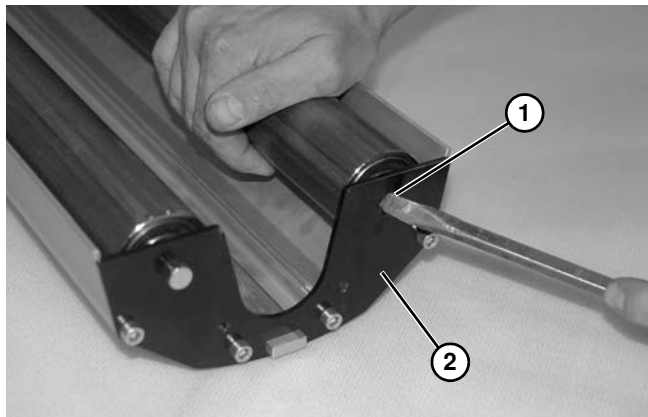
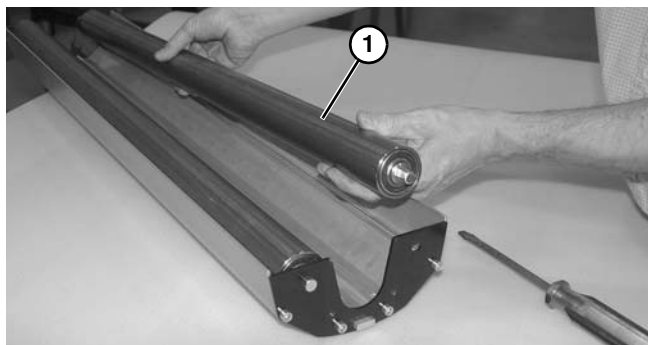

Figure 92
Figure 93
8. On mid drive module, use a heavy-duty screwdriver to push in pin (Figure 92, item 1) to release end of spindle from bracket (Figure 92, item 2). Remove and replace each spindle (Figure 93, item 1).